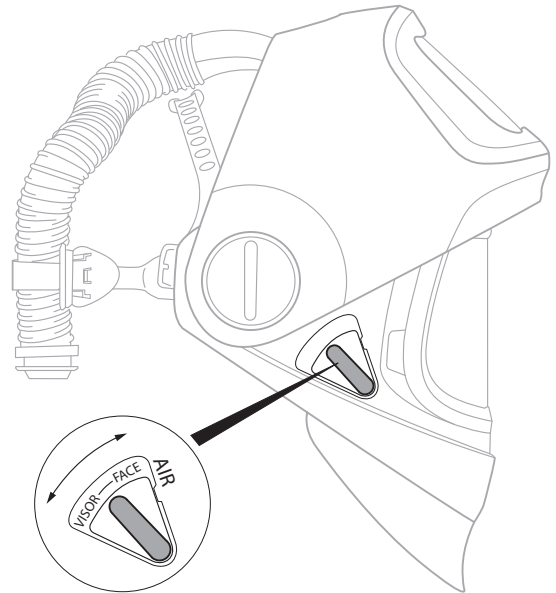

Fig. 8b
- To adjust the airflow toward the visor or the wearer’s face, with the airflow coming from the top (UP) of the welding helmet, locate the VISOR – FACE lever on the right side of the welding helmet. Adjust it to the desired position for incoming airflow (Fig. 8b & 8d). The adjustment drives a deflector in the top of the welding helmet that aims air at the visor or wearer’s face.